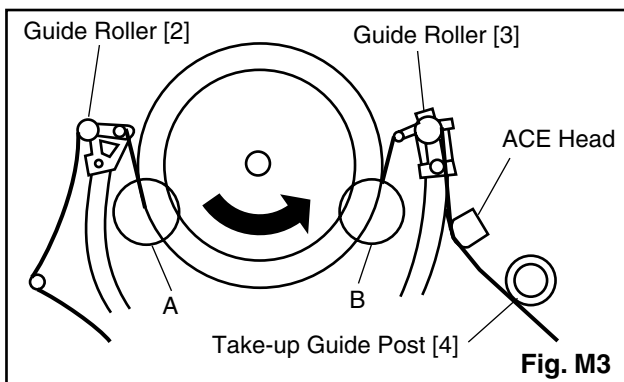

Fig. M3
1. Playback a blank cassette tape and check to see that the tape runs without creasing at Guide Rollers [2] and [3], and at points A and B on the lead surface. (Refer to Fig. M3 and M4.)
2. If creasing is apparent, align the height of the guide rollers by turning the top of Guide Rollers [2] and [3] with a Guide Roller Adj. Screwdriver. (Refer to Fig. M3 and M5.)
3. Check to see that the tape runs without creasing at Take-up Guide Post [4] or without snaking between Guide Roller [3] and ACE Head. (Fig. M3 and M5)
- Playback the Gray Scale on the Alignment Tape (9965 000 14515). Set the Tracking Control Circuit to the preset position by pressing CH UP button and then "PLAY" button on the unit. Adjust the height of Guide Rollers [2] and [3] (Fig. M3, Page 2-3-3) watching the oscilloscope display so that the envelope becomes as flat as possible. To do this adjustment, turn the top of the Guide Roller with the Guide Roller Adj. Screwdriver.
- If the envelope is as shown in Fig. M7, adjust the height of Guide Roller [2] (Refer to Fig. M3) so that the waveform looks like the one shown in Fig. M9.
- If the envelope is as shown in Fig. M8, adjust the height of Guide Roller [3] (Refer to Fig. M3) so that the waveform looks like the one shown in Fig. M9.
- When Guide Rollers [2] and [3] (Refer to Fig. M3) are aligned properly, there is no envelope drop either at the beginning or end of track as shown in Fig. M9.
Note: Upon completion of the adjustment of Guide Rollers [2] and [3] (Refer to Fig. M3), check the X Value by pushing the CH UP or DOWN buttons alternately, to check the symmetry of the envelope. Check the number of pushes to ensure preset position. The number of pushes CH UP button to achieve 1/2 level of envelope should match the number of pushes CH DOWN button from center. If required, redo the "X Value Alignment."